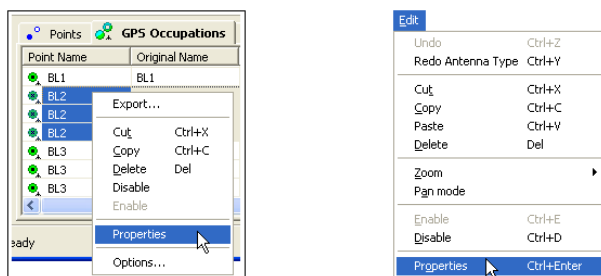

Figure 5-4. Ways to Open the Properties Dialog Box
2. Right-click the selected occupations and click **Properties** on the pop-up menu, or click **Edit ▶ Properties** (Figure 5-4).